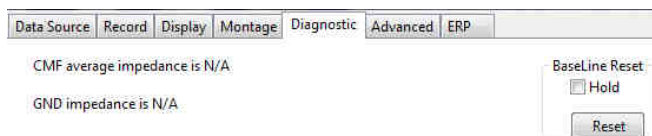

Figure 10. Diagnostic tab from DSI-Streamer software.
- In the **Diagnostic** tab in the main window of the DSI-Streamer software is a **Baseline Reset** option (Figure 10).